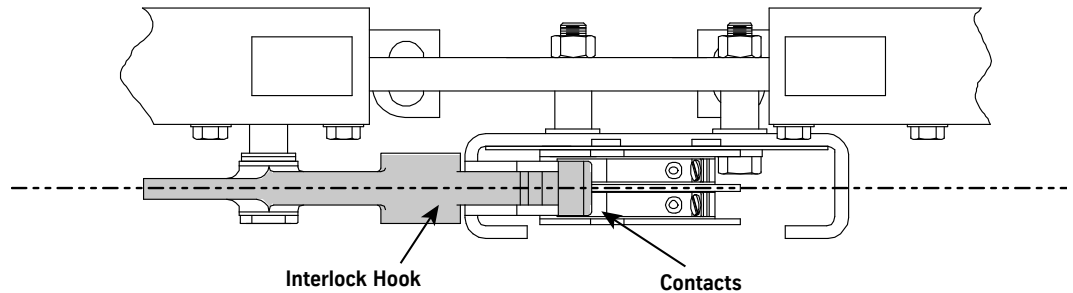

Figure 14 - Interlock Hook Centered on Contacts
2. Close the doors and ensure that the interlock hook is centered on the contacts. See Figure 14.
2. Close the doors, and check the clearance between the sides of the interlock hook, contact plug, and box to ensure that they are centered on their respective contacts. See Figure 14 on page 19.